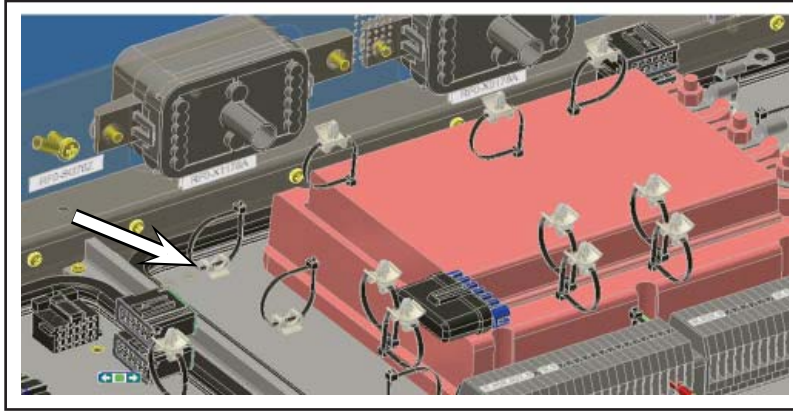

Figure 6 - Location of N65008 Cable Tie Mount to Install
- 1.20. Install an N65008 cable tie mount if not already in place. See Figure 6.